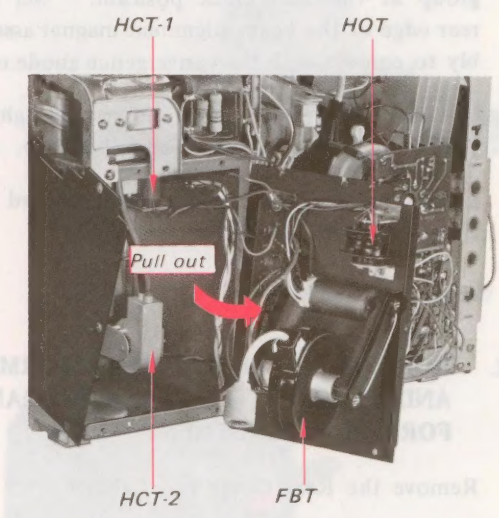

Fig. 2-37. Cage disassembled for access to the flyback and horizontal output transformer
- 10. Pull out the rear of high voltage cage by pulling out the power transformer. See Fig. 2-37.